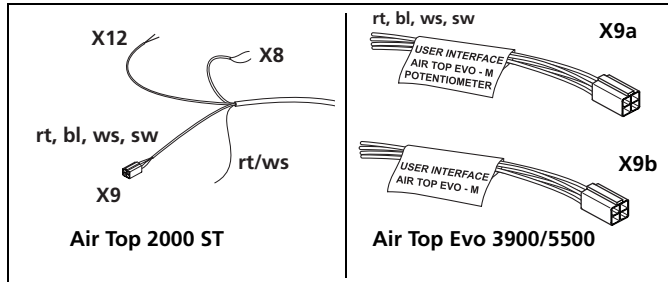
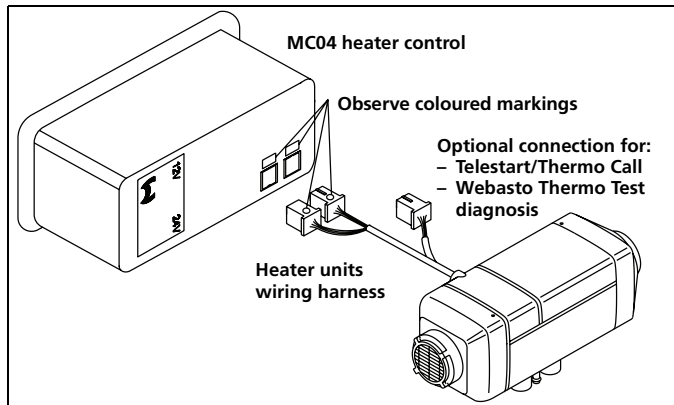

Fig. 39: Heater control wiring
Fig. 43: Connection diagram for Air Top Evo 3900/5500 with MC04 heater control
See Figure 39.
- See Figure 39 (connector X9a and X9b), and Figure 43.